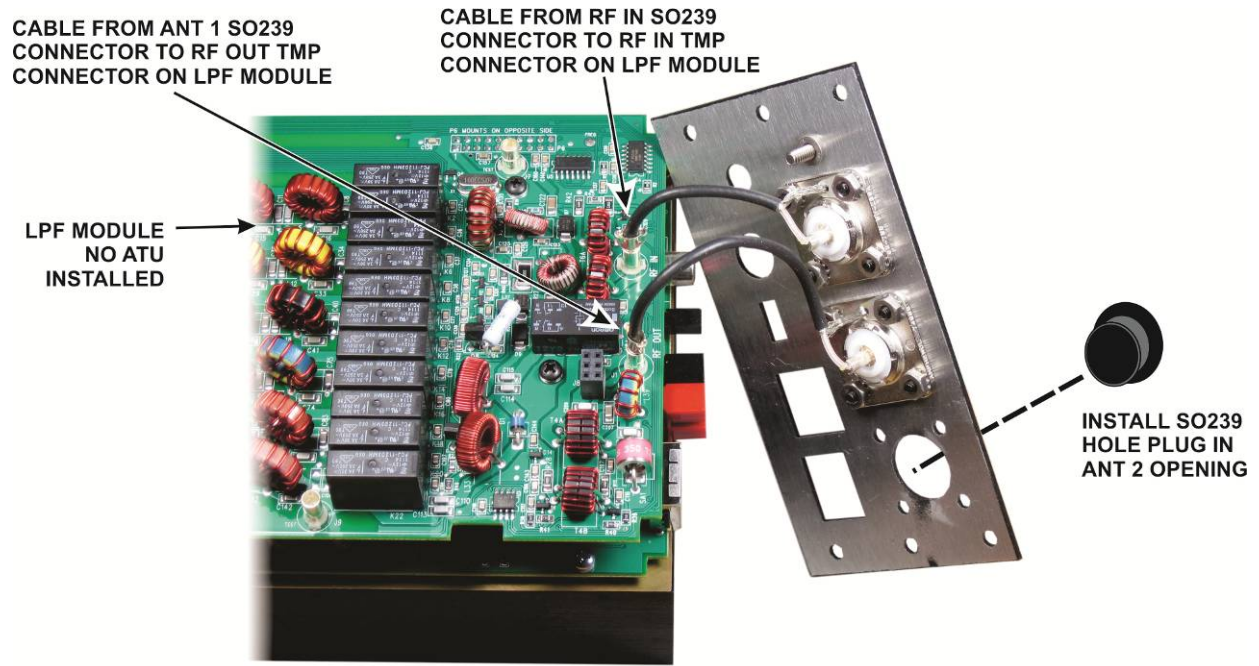

Figure 16. Connecting the Rear Panel Cables with no ATU.
- If you do not have the KXAT3 ATU, see Figure 16. Also insert the hole plug in the unused ANT2 opening as shown in the figure.